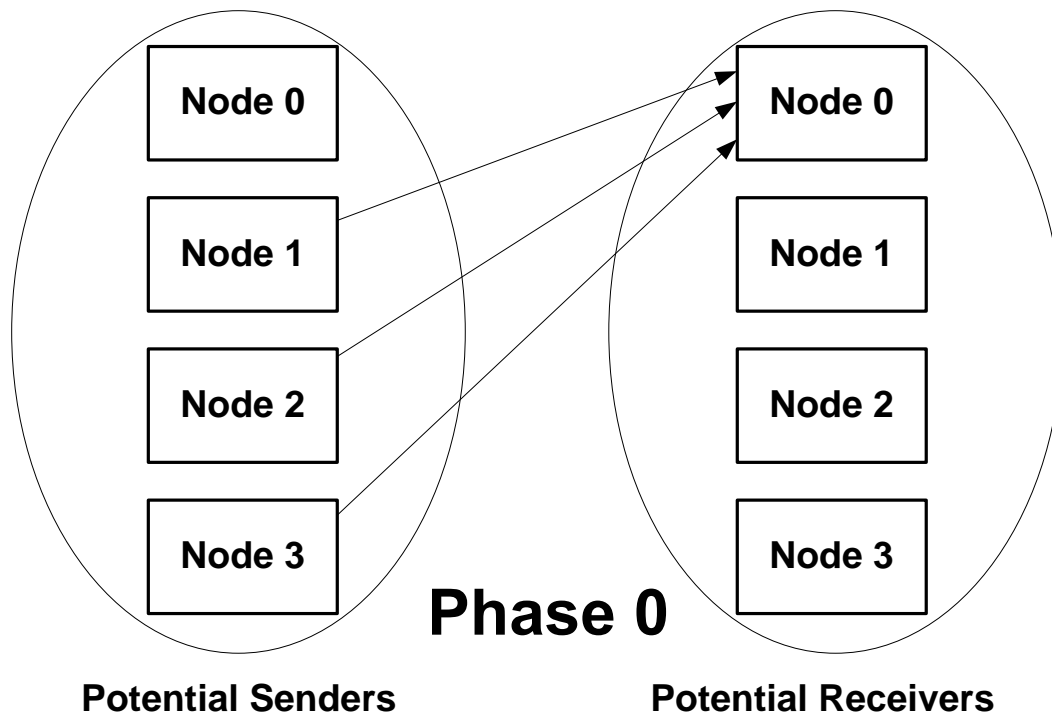

Figure 3: Illustration of Phase 0 of the gather Testbench
7. Finally, to test the 4-node Gold ring network, construct a testbench consisting of multiple phases of a *gather* traffic pattern as described below. A gather traffic pattern is an all-to-one communication traffic pattern, where every node (except the destination node) in the network sends to one node. For example, Figure 3 depicts the packets sent for a gather traffic case when every node transmits a packet to node 0. This constitutes phase 0 of this traffic application. Notice that in our network environment every node is a potential sender and a potential receiver. By term potential we mean that every node does not send and receive in every phase (e.g., node 0 is not sending a packet to itself in phase 0, Figure 3). There are four different gather traffic patterns possible in our Gold ring. In each type of gather traffic, one node of the network acts as the destination node and all other nodes (excluding the destination node) act as source nodes, which send one packet to the common destination. We use the term phase K to describe the gather operation when node K (K varies from 0 to 3, Figure 3) acts as the destination. So, there are a total of 4 phases, in which we can verify that every node in the network can send and receive packets from each other.